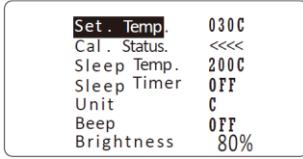

Fig.7
3.3. When Cal. status display "<<<" (see Fig 7.) , it means "Real Temp." has calibrated and decrease temperature.